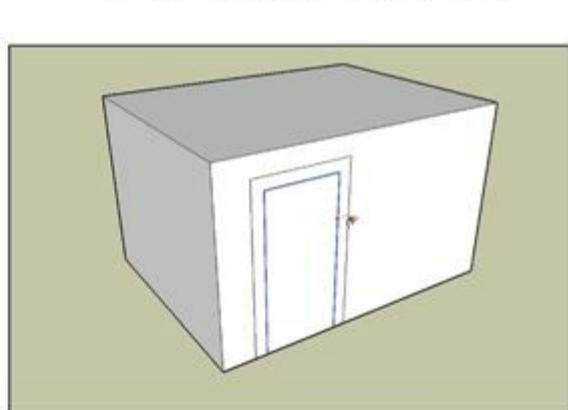

FIGURE 4-8: Using Offset on a set of preselected edges is handy for drawing things like door frames.
- *Preselect one or more coplanar (on the same plane) edges and then use Offset.* If you have selected edges, you can use Offset on just those edges; this comes in handy for drawing things like door frames and balconies, as shown in Figure 4-8.